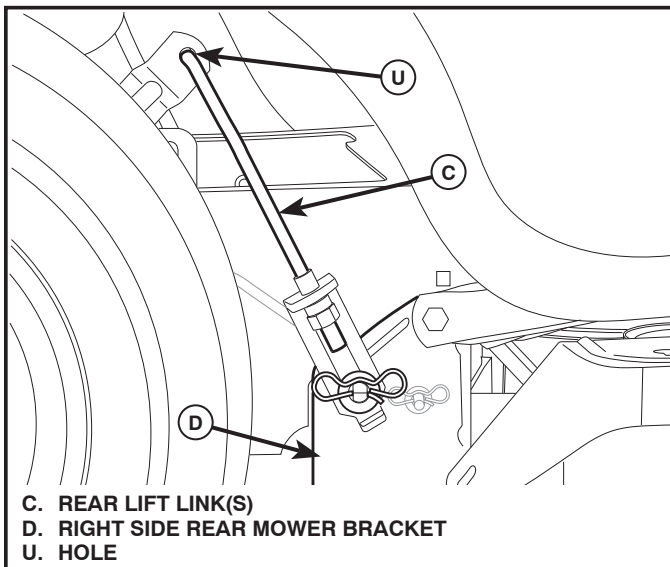

Fig. 31
## 7. ATTACH REAR LIFT LINKS (C) (See Fig. 31)
- Insert rod end of rear lift link (C) into hole (U) in tractor lift shaft suspension arm and pivot link down to mower.
- Lift rear corner of mower and position slot in link assembly over pin on rear mower bracket (D) and secure with large washer and large retainer spring.